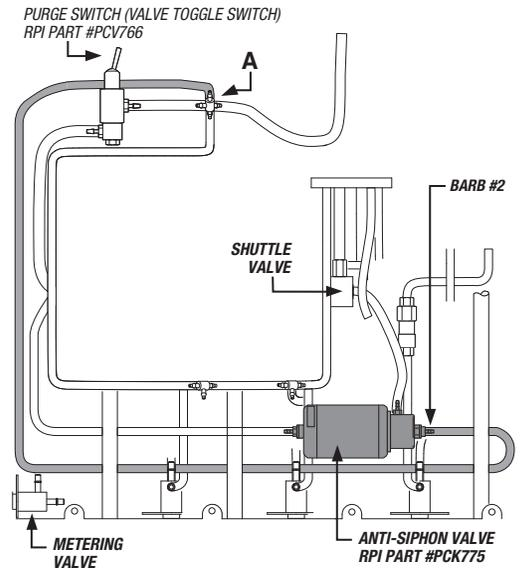

Figure 3
- 5) Route the new green tubing that is attached to **BARB #2** on the Anti-Siphon Valve to Tee Fitting "A", then connect the tubing to the Tee Fitting at the new 1/16" Barb and Flat Washer from Step #4 (see Figure 3).